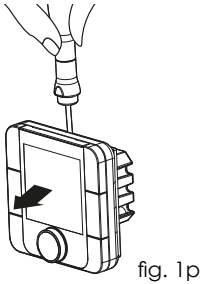

fig. 1p
1. detach the front from the rear of the terminal using a screwdriver (Fig. 1p);